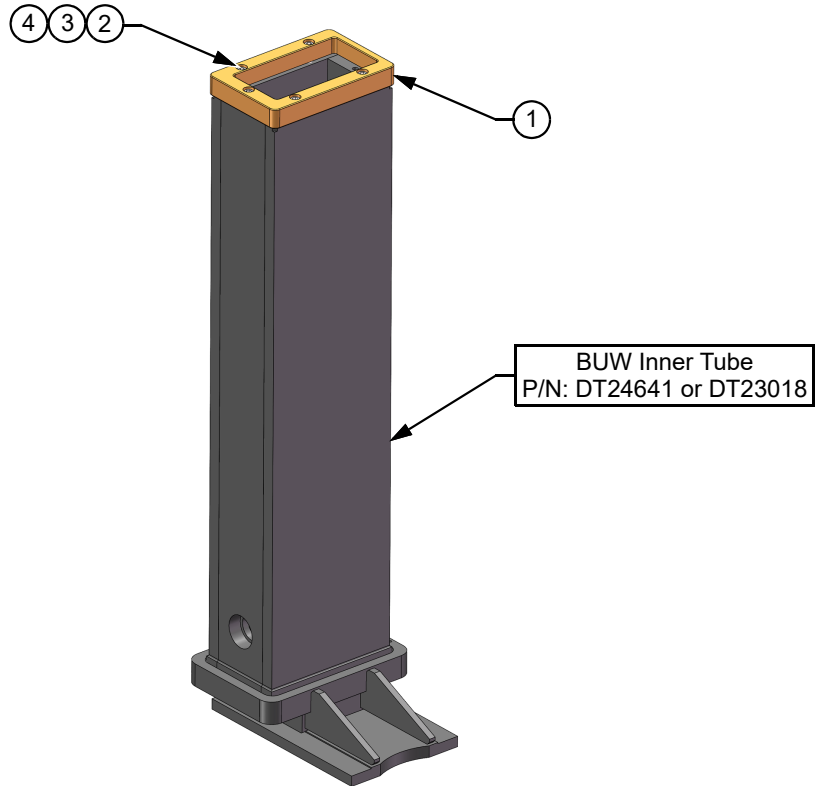

Figure 1: Modification Kit (AY26054)
3. Install the wear pad DT27313 and fasteners per modification kit AY26054 in Figure 1 on page 2. Ensure the fasteners are torqued to 96 ft-lb and that Loctite is applied.